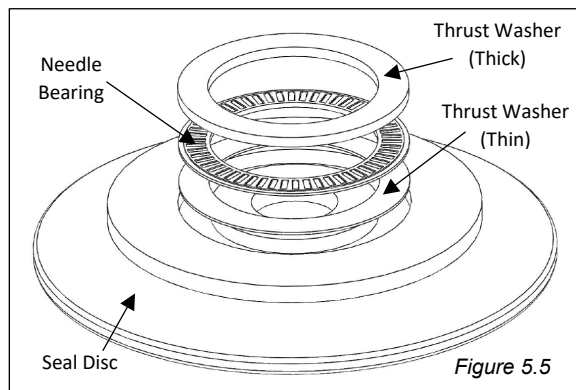

Figure 5.5
3. For JS75H/HS, JS75XH/XHS, and JS165H/HS model valves, assemble the bearing assembly according to *Figure 5.5*.